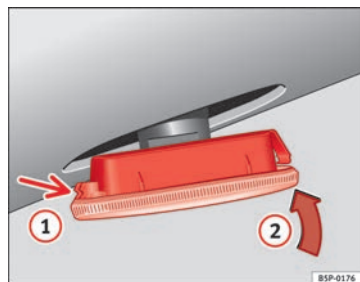

Fig. 173 Side turn signals
- First fit the turn signal in the opening in the chassis, fastening the tabs ① ⇒ fig. 173, and then fit in the bulb as shown by the arrow ② ⇒ fig. 173. ■